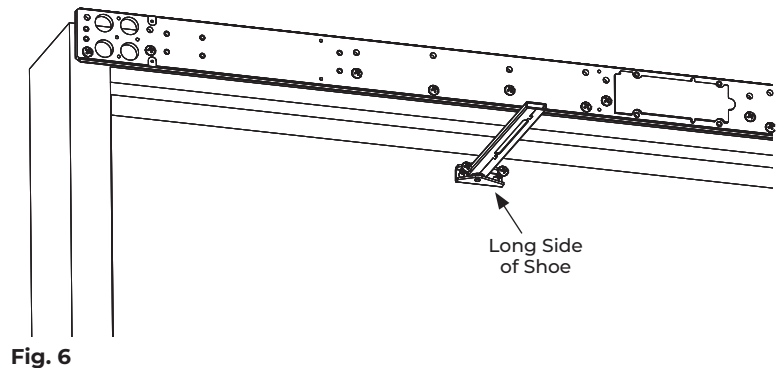

Fig. 6
6. Repeat step 3 and secure the forearm shoe to door. Tighten both screws. (Fig. 6)